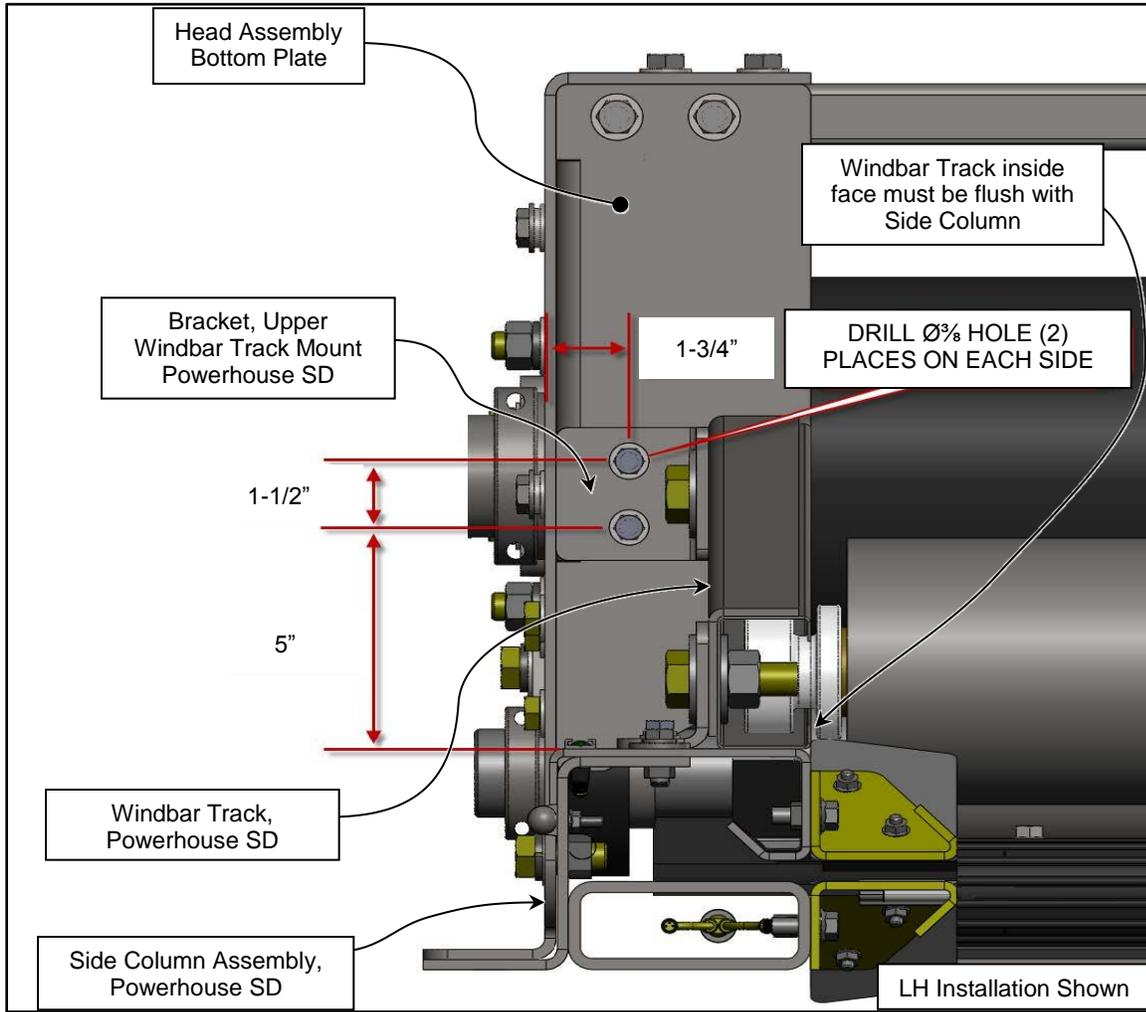

Figure 45
2. Mark the locations for the (4)  $\text{Ø}\frac{3}{8}$ " holes required in the Head Assembly Bottom Plates for the Upper Windbar Track Mounting Bracket as shown when necessary (retrofit installations). (See Figures 45 & 46)
The track's inside face/edge must be mounted flush with the inside edge of the Side Column. Screw the bolts into the nuts so full thread engagement is achieved. Do not tighten the brackets in place yet. They will need adjustment later. (See Figures 45 and 47)